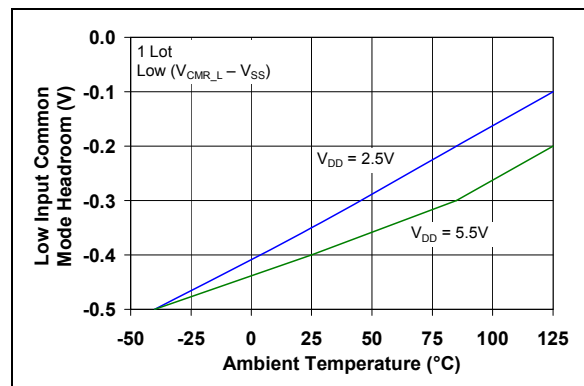

FIGURE 2-5: Low-Input Common-Mode Voltage Headroom vs. Ambient Temperature.
**Note 1:** See Figure 2-5 for temperature effects.